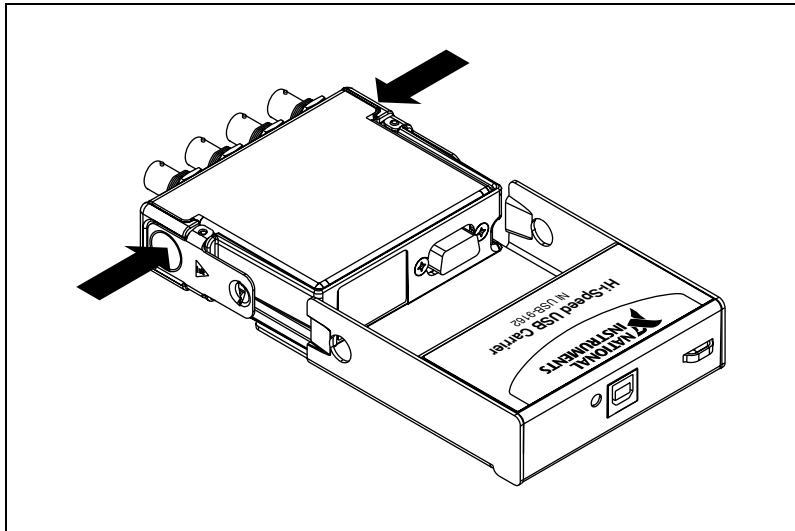

Figure 3. Module Installation
The NI 9233 module and USB-9162 carrier are packaged separately. Refer to Figure 3, while completing the following assembly steps:
3. Align the I/O module with the carrier, as shown in Figure 3.